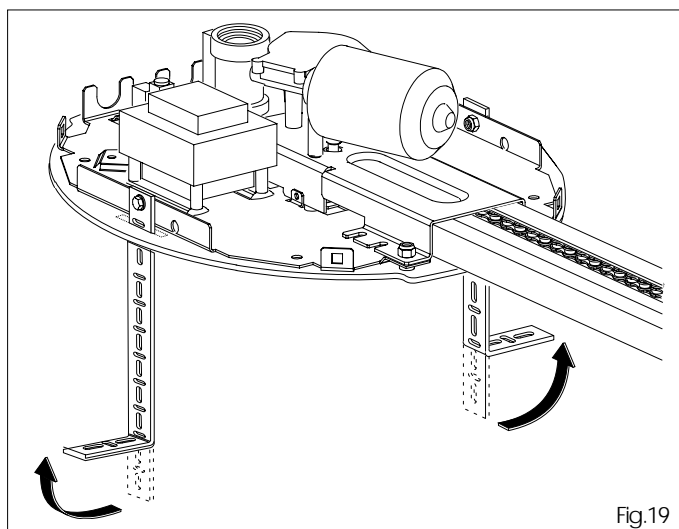

Fig.19
- 6.10 Bend the securing brackets in line with the measurements you had taken (fig. 19).